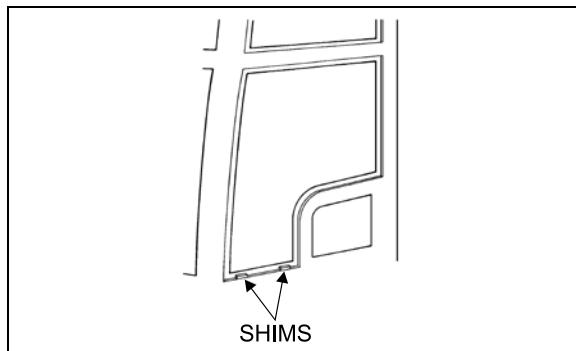

FIGURE 35: ADHESIVE-MOUNTED WINDOW
*Use small shims to raise the glass in proper position. Shims can be cut from the tremshield tape (Figure 35).*